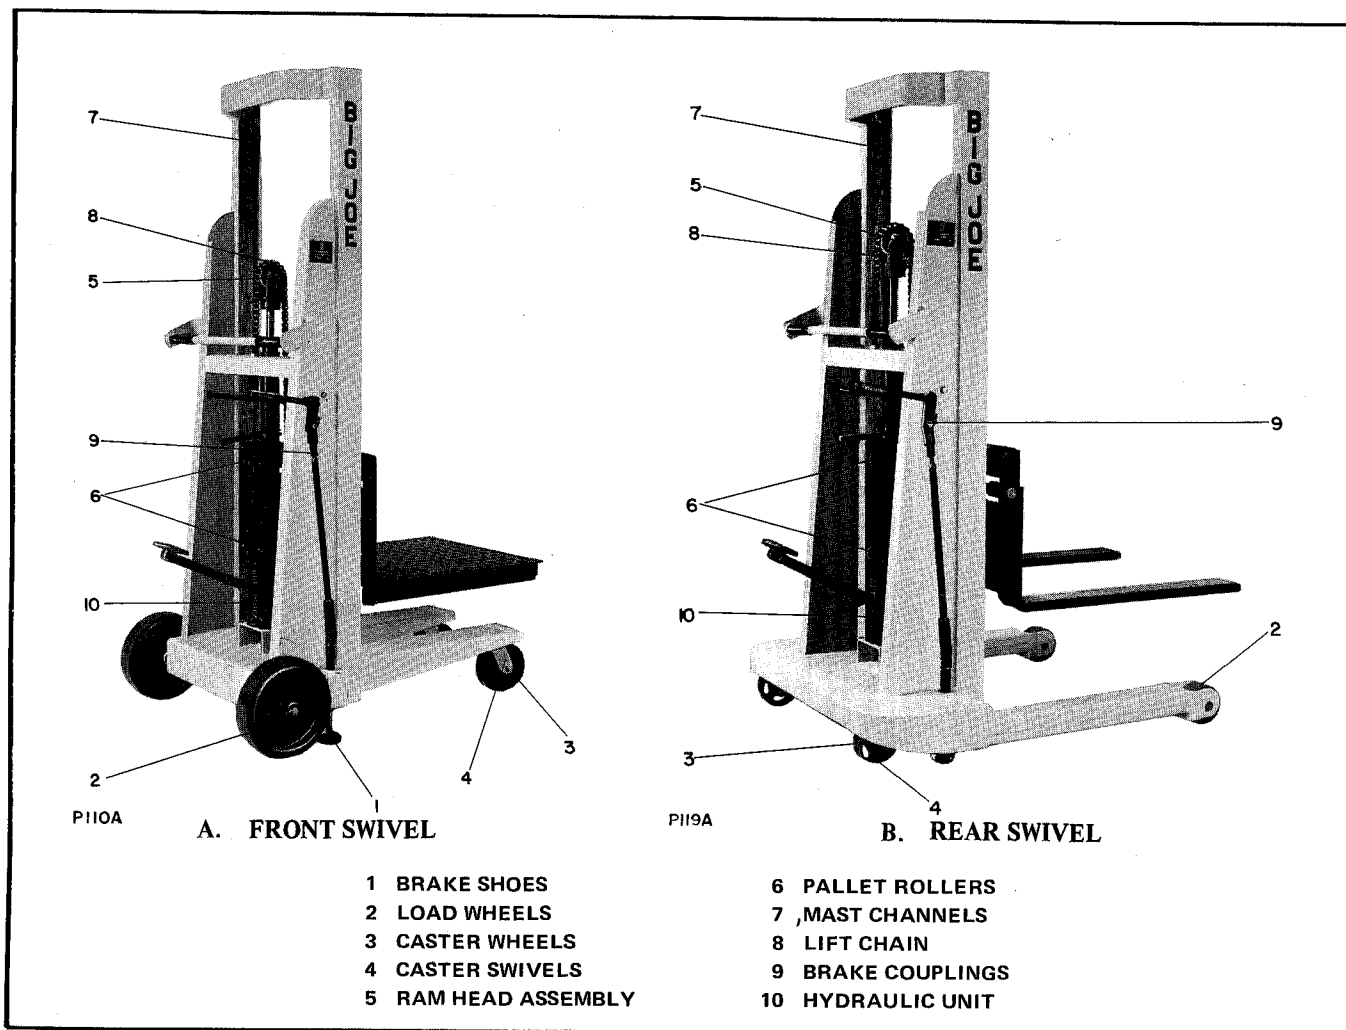

Figure 3-1. Lubrication and Cleaning
2. Friction surface of the brake shoes (1, figure 3-1). Replace these if damaged (paragraph 3-17).
3-5. Lubrication. (Figure 3-1)